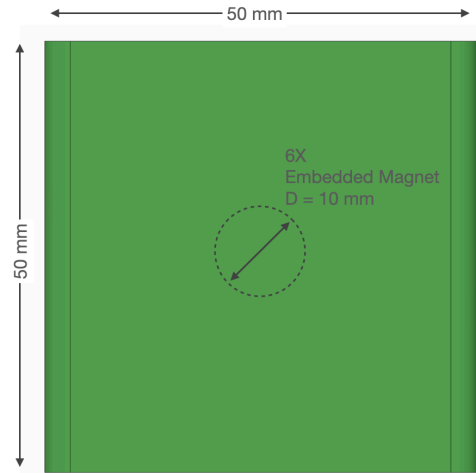

Figure 4: CAD Drawing of an CRATE. Dimensions are in cm. All dimensions are ± 0.2 cm.
- ☐ A sample drawing of a CRATE is shown in Figure 4.